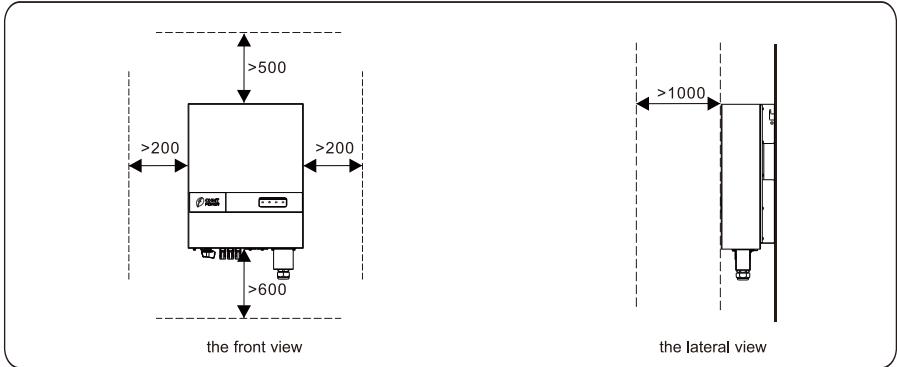

Figure 4.3 Installation Space Requirements (unit: mm)
- b. Reserve enough clearance around the inverter to ensure sufficient space for installation and heat dissipation, as shown in Figure 4.3.